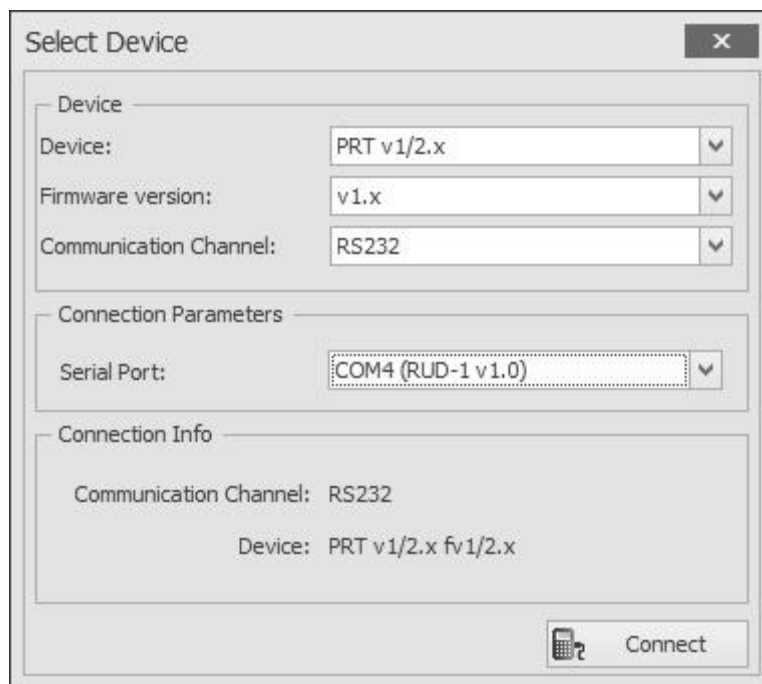

Fig. 4 Select Device window view
5. Choose the device model, firmware version, communication channel and serial port, on which RUD-1 is installed (Fig. 4).